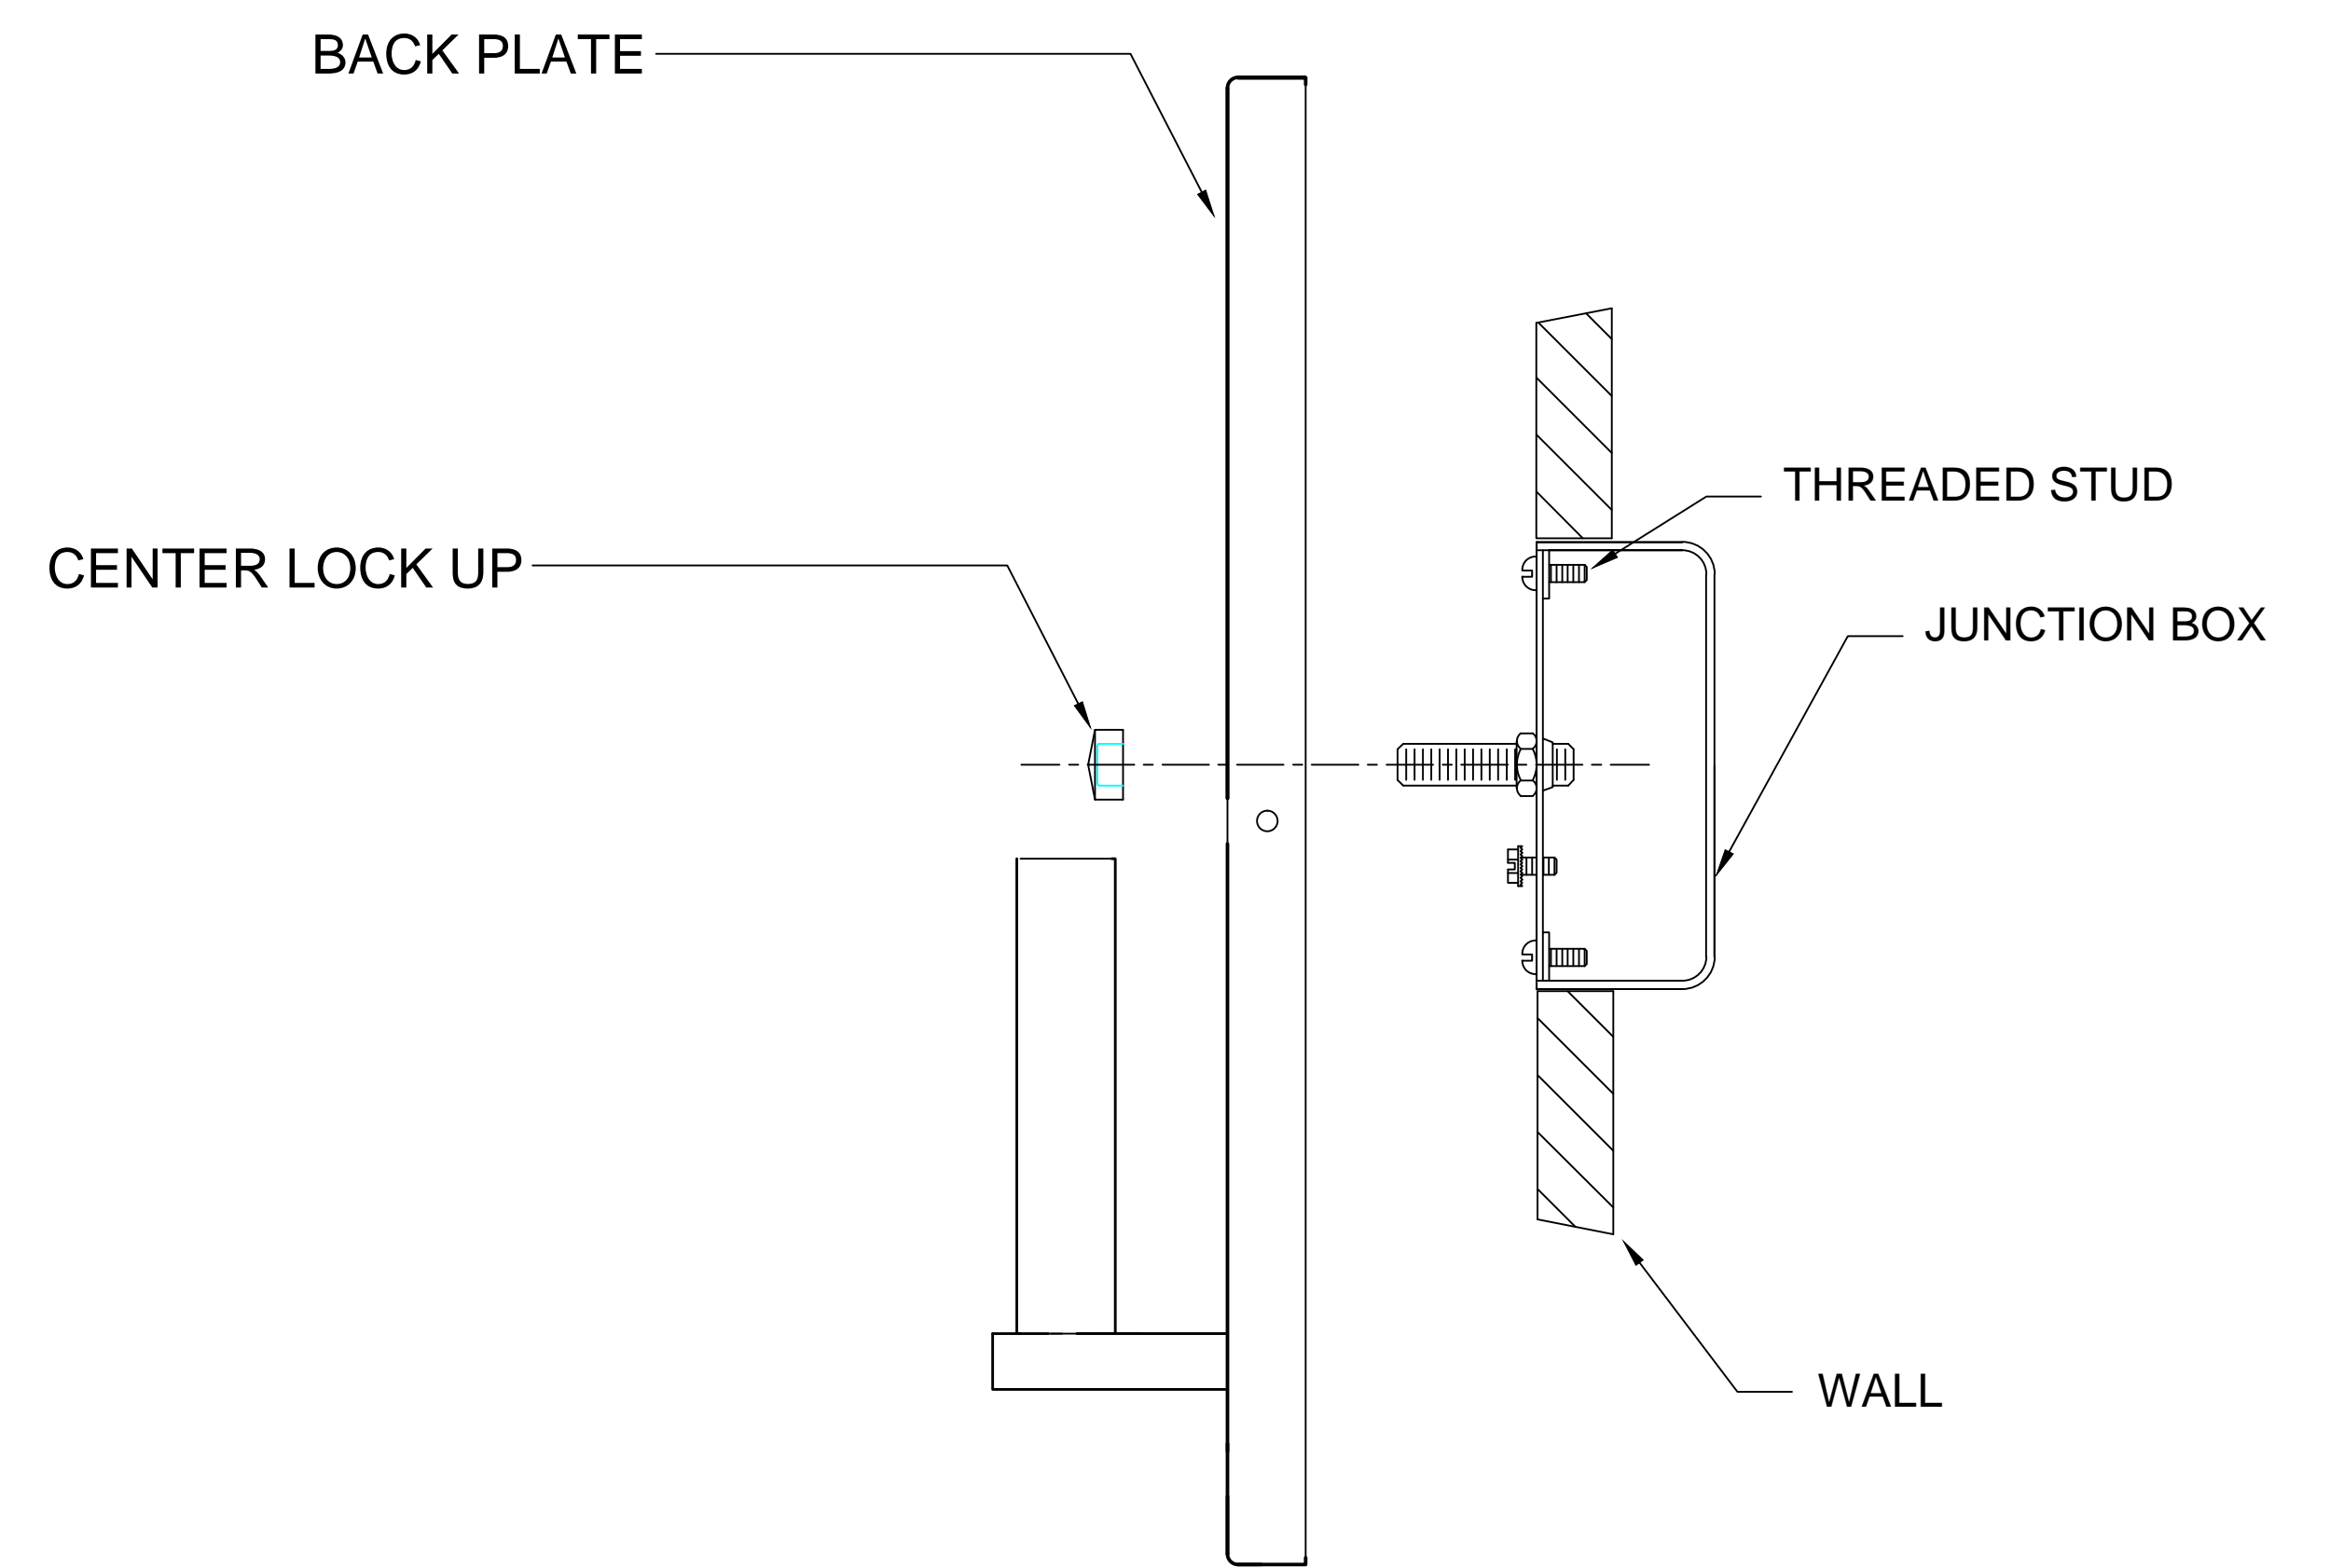

FIGURE-02
4. Attach the backplate to the mounting plate and secure it with center lock up. (See Figure-02)